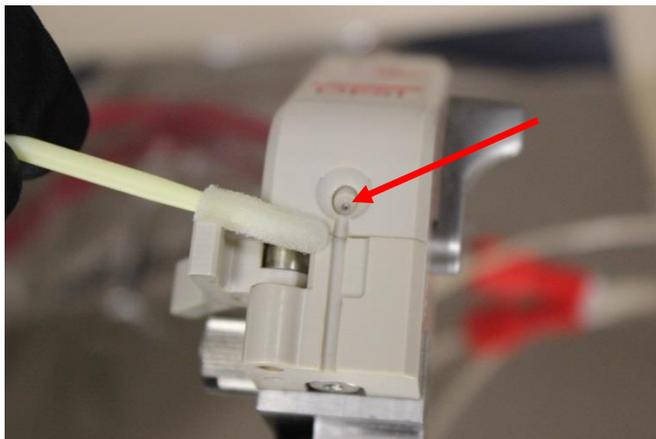

Figure 1.21 – Cleaning of the ESI/DESI Source, emitter tip (RED)
11. Now, use a new swab to clean the removed ESI/DESI source with methanol while avoiding contact with the fragile spray emitter tip (Figure 1.21). The ESI/DESI source may also be cleaned with methanol while still attached to the instrument if a “Quick Cleaning” is desired. In this case, the instrument would not need to be powered down, as